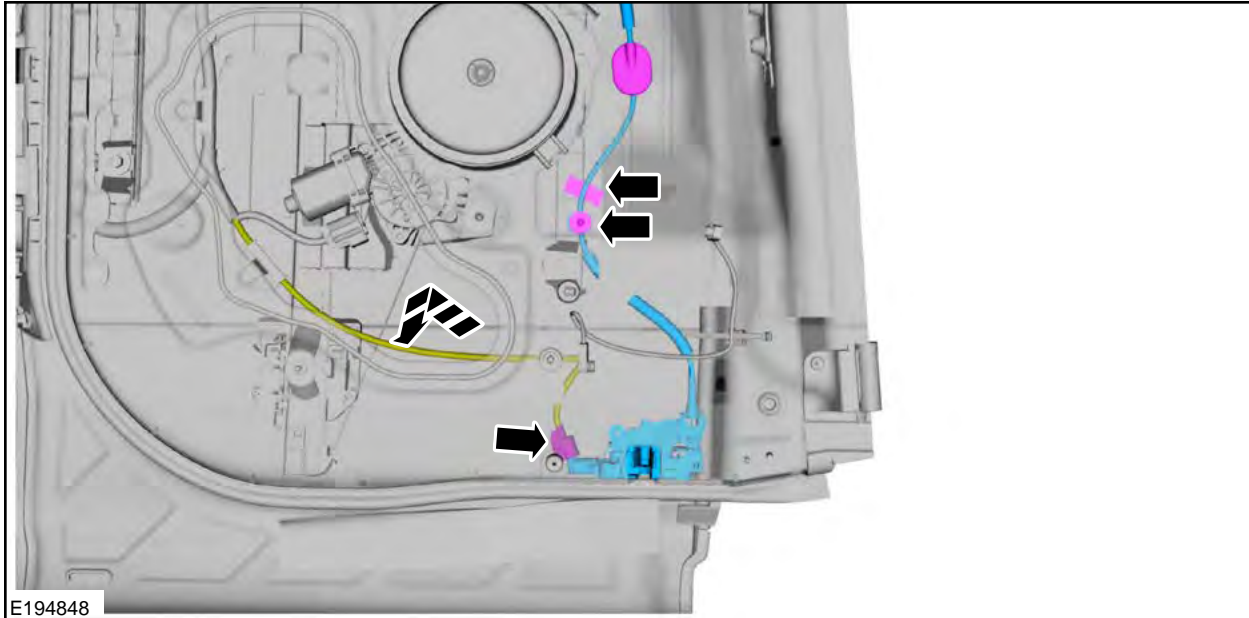

FIGURE 101
3. Inspect the interior door handle to latch cable for kinking. See Figure 101.
5. Detach the cable retainers and disconnect the electrical connector. Position the rear door latch outside of the door. See Figure 101.
9. Position the rear door lower latch back into the door. Attach the cable retainers and connect the electrical connector. See Figure 101.